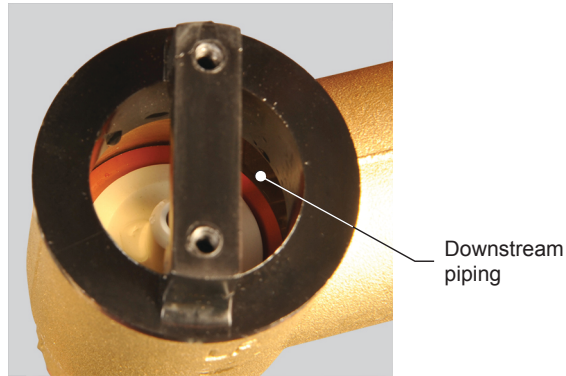

Figure 35. Atmospheric Vacuum Breaker with air inlet valve open.
6. Remove the canopy and look inside the Atmospheric Vacuum Breaker. The poppet should be down on the lower seat and you should see the downstream piping of the Atmospheric Vacuum Breaker, as seen on Figure 35.